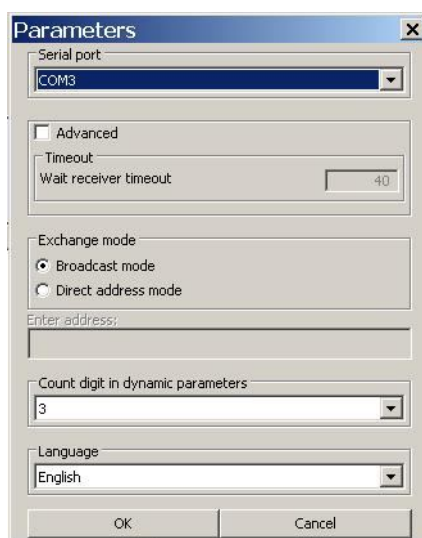

Figure 3.4
3.6.4 Click on button "Parameters" in the top information line of the program window and in the evoked "Parameters" window (see Figure 3.4) select the serial port number as determined according to 3.6.2 (for "Via broadcast address" mode). Click "OK".